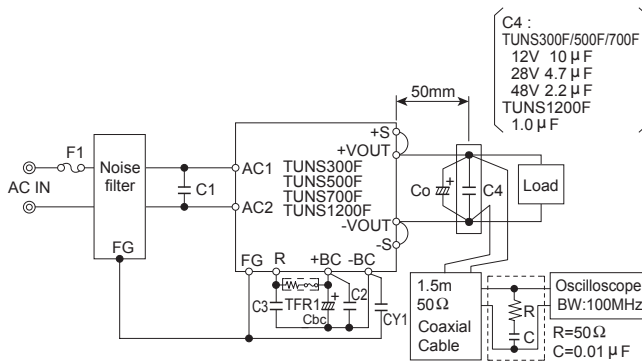

Fig.2.1 Method of Measuring Output Ripple and Ripple Noise
■ The specified ripple and ripple noise are measured by the method introduced in Fig.2.1.